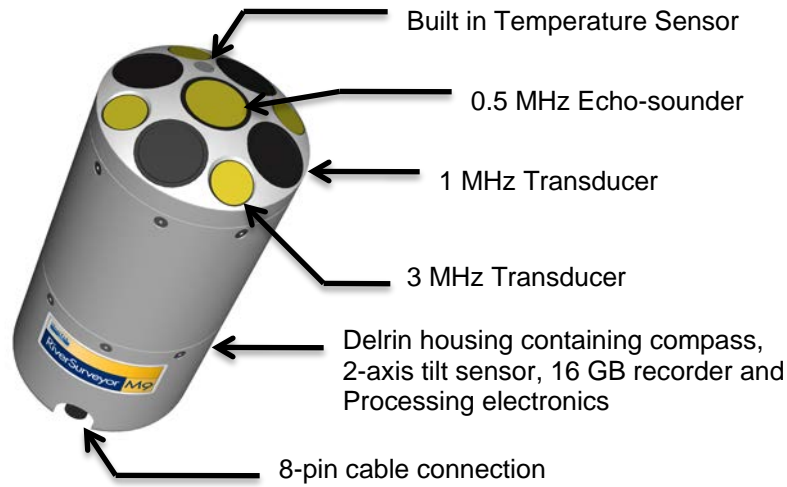

Figure 2. M9 ADP Features
- **M9** (Figure 2): This portable, 9-beam ADP with a velocity profiling range of 0.2 to 30 m is intended for use from moving or stationary boats/floating devices in both shallow and deep channels. The M9 has a 5-inch (13-cm) diameter Delrin housing. It has two sets of velocity measurement transducers, both in a Janus configuration – four 3.0-MHz transducers and four 1.0-MHz transducers. A 0.5-MHz vertical acoustic beam (echo sounder) provides depth data.